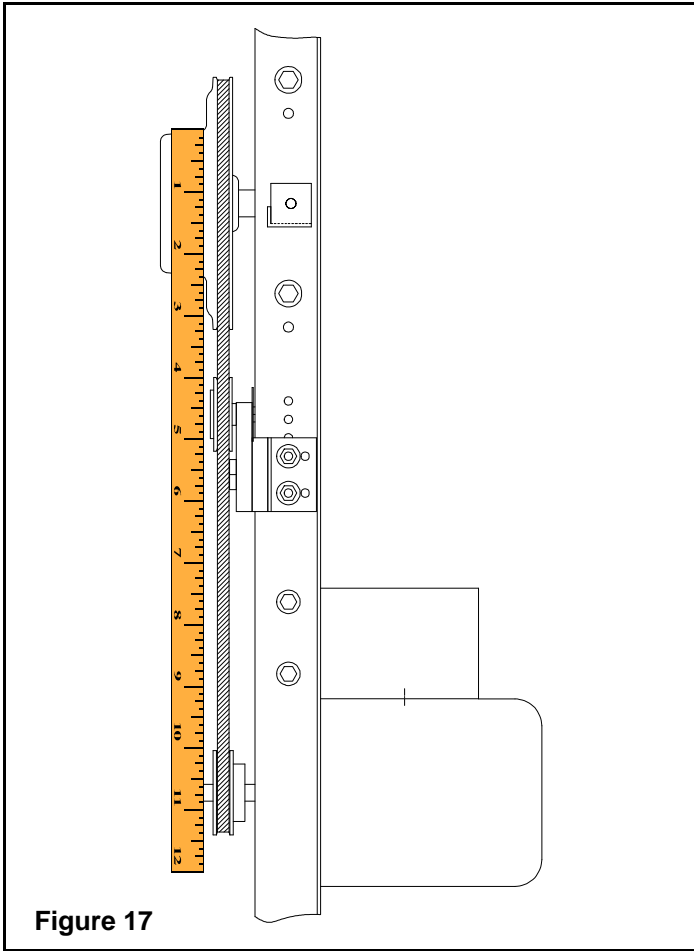

Figure 17
Spin the blade assembly by hand. Make sure that the blade assembly rotates freely and did not shift during shipment. If the blades rub in either side of the fan orifice, it will be necessary to loosen the two (2) 3/8" bolts that secure the blade assembly's hexagonal shaft to the fan x-braces, center the blade assembly, and tighten the bolts to 25-30 ft-lbs torque. If the blades rub in the fan orifice at the top or bottom, it will be necessary to loosen the four (4) 3/8" bolts that secure the fan x-braces to the fan uprights, center the blade assembly, and tighten the bolts to 25-30 ft-lbs torque. Next, the fan drive assembly should be checked for alignment. The fan drive assembly must be aligned for proper fan performance and to minimize pulley and belt wear. Before wiring and operating the fan, check that the drive pulley, driven disc and auto belt tensioner are aligned by using a straight edge such as a scale or yard stick. If an adjustment is necessary, loosen the set screw on the motor pulley and adjust to proper alignment. Make sure to retighten the motor pulley set screw before the fan is operated. See Figure 17.